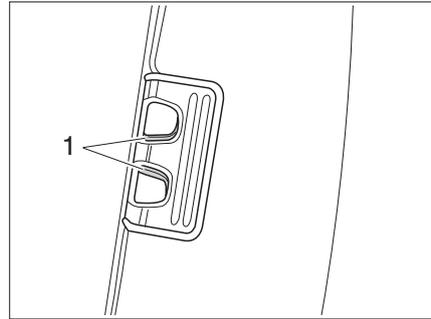

Fig. 3 Roman shade, locking mechanism
- Press the locking mechanism (Fig. 3,1) together and lift it slightly.